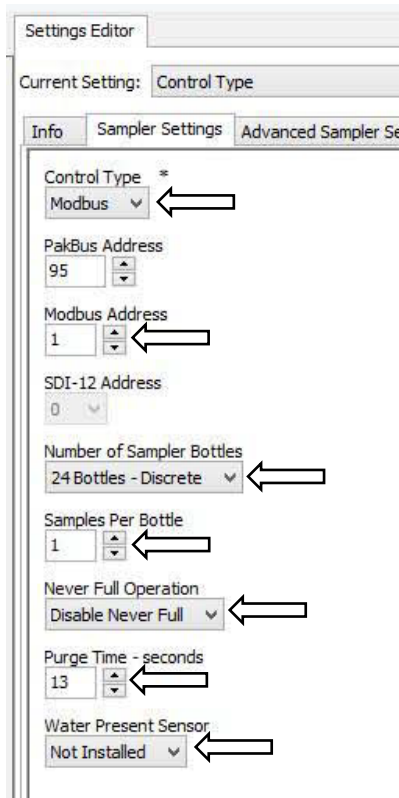

FIGURE 8-16. Modbus® Setting Editor screen
1. Click the **Sampler Settings** tab (FIGURE 8-16).